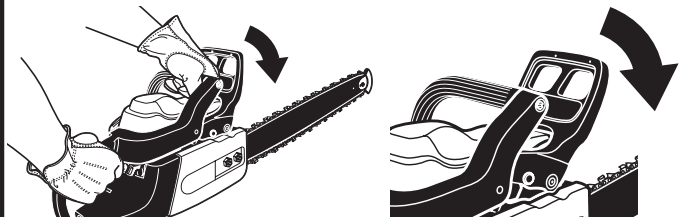

Fig. 27
2. Pull the throttle trigger to bring the chainsaw up to full speed. Using the back of your left hand, engage the chain brake by pushing the chain brake lever/hand guard towards the bar while the chain is rotating rapidly. See *Figure 27*.